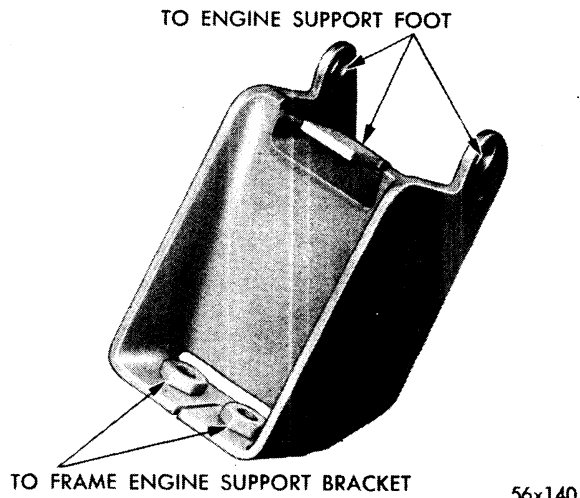

Fig. 64—Front Engine Mounting
41. REMOVAL OF FRONT ENGINE MOUNTINGS (Fig. 64)